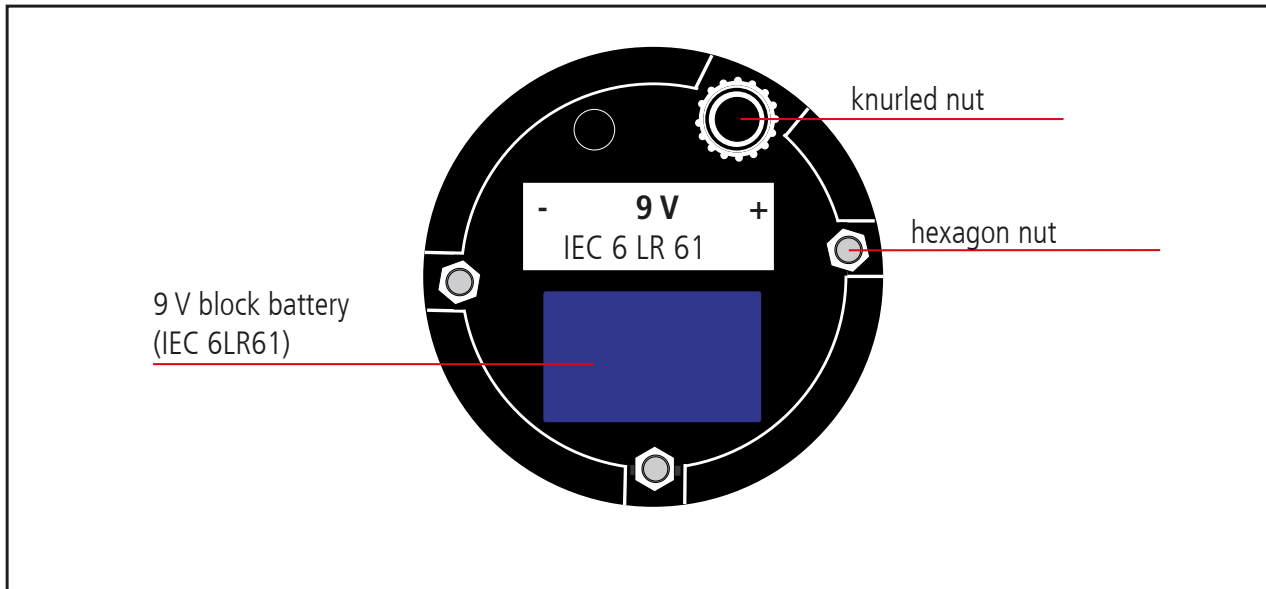

Fig. 9.5 Lower part of the electronic element
- 9.4 Before assembling the indicator, ensure tight fit of the hexagon nuts screwed to the electronic element as well as the knurled nut. If nuts (hexagon or knurled nut) are loose or missing, withdraw the voltage detector (indicator) from service and send it to DEHN for repair (see Fig. 9.5)!